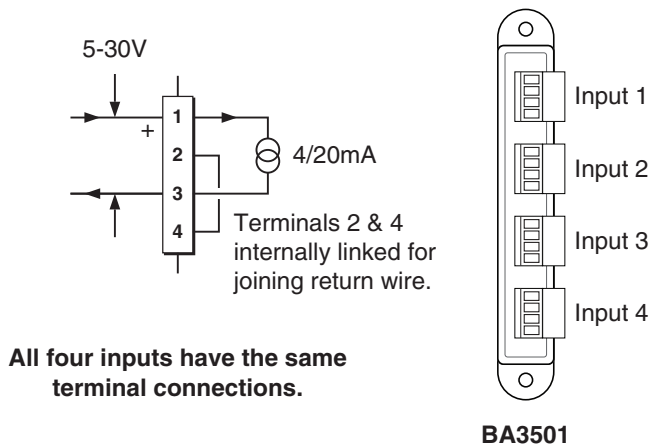

Fig 3 4/20mA output terminals
3. Connect field wiring to each of the four removable output terminal blocks. All the outputs are identical as shown in Fig 3. Each of the four outputs is a galvanically isolated intrinsically safe circuit and field wiring should comply with segregation requirements specified in IEC/EN 60079-14. If a multicore cable is used for the outputs, it should have Type A or B construction as specified in Clause 16.2.2.7 of IEC/EN 60079-14. Wiring should be supported to avoid damaging the module's terminals.